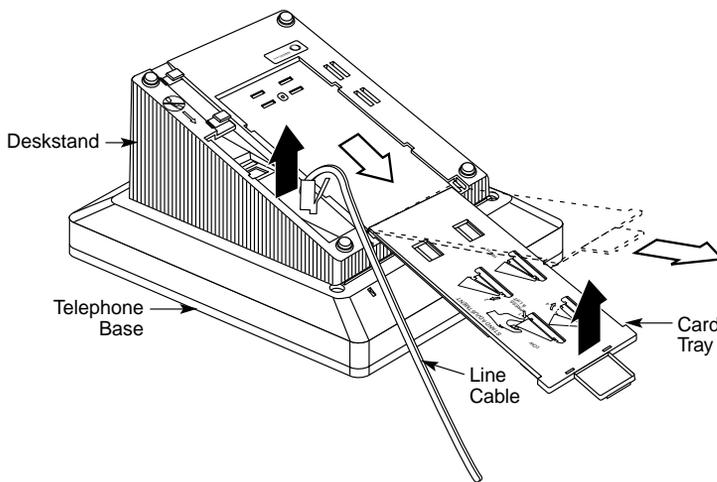

Figure 3-2. Removing the User Card Tray and Line Cable
- ▶ **1. Place the telephone face down on a flat surface; remove the user card tray and line cable from the bottom of the deskstand. See Figure 3-2.**